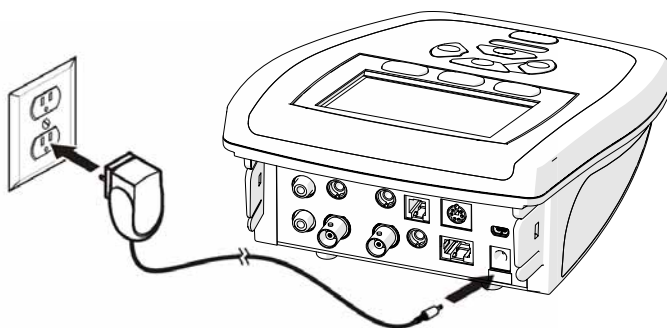

Figure 3 AC power connection
3. Connect the universal power adapter to an AC receptacle (Figure 3).